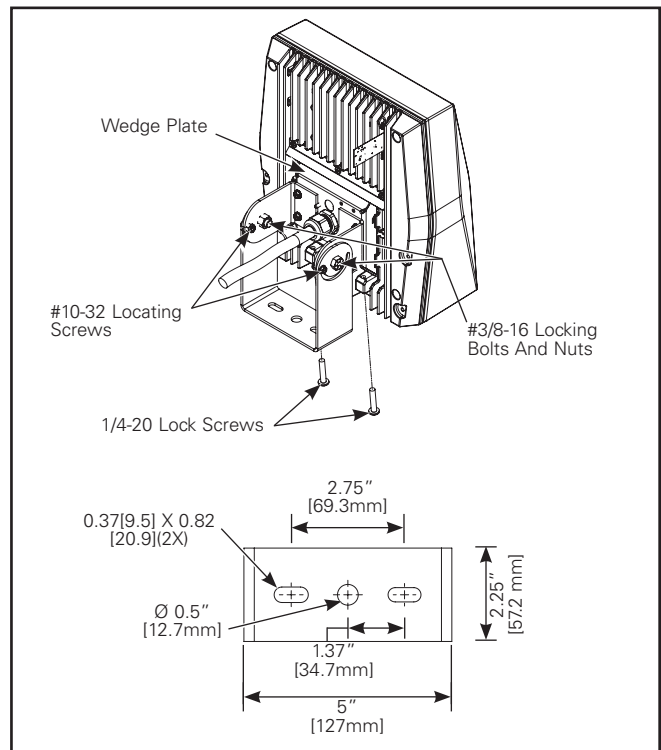

Figure 8. Axcent (Small & Large)
4. Mount luminaire to surface using the hole pattern provided on the trunnion bracket. Hardware must be adequate to ensure that the mount can support up to a 25 lb fixture. (Figure 8.)
5. Loosen but do not remove the locating screws and locking bolts and nuts shown in (Figure 8).
6. Adjust the trunnion flood bracket to desired angle. Retighten #3/8-16 locking bolts and nuts to 30 ft-lbs and #10-32 locating screws to 3 ft-lbs. (Figure 8.)